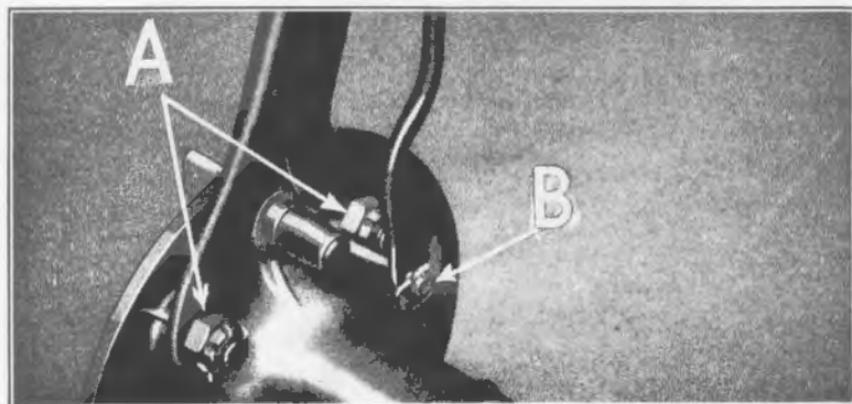

Fig. 363
**650** Insert the two radius rod bolts through axle housing plate and install forked end of radius rod over ends of bolts. Run down the two radius rod bolt nuts (See "A" Fig. 363) and lock with cotter keys.